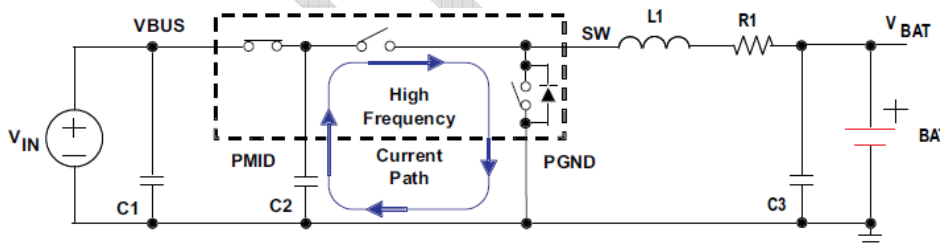

Figure 49. high frequency current path
1. To obtain optimal performance, the power input capacitors, connected from input to PGND, should be placed as close as possible to the pin. The output inductor should be placed close to the IC and the output capacitor connected between the inductor and PGND of the IC. The intent is to minimize the current path loop area from the SW pin through the LC filter and back to the PGND pin. To prevent high frequency oscillation problems, proper layout to minimize high frequency current path loop is critical. (See Figure 49.) The sense resistor should be adjacent to the junction of the inductor and output capacitor. Route the sense leads connected across the RSNS back to the IC, close to each other (minimize loop area) or on top of each other on adjacent layers (do not route the sense leads through a high-current path). (See Figure 50.)